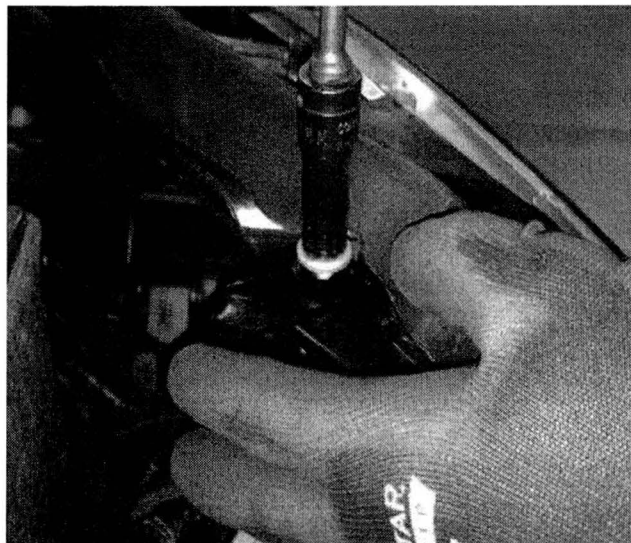
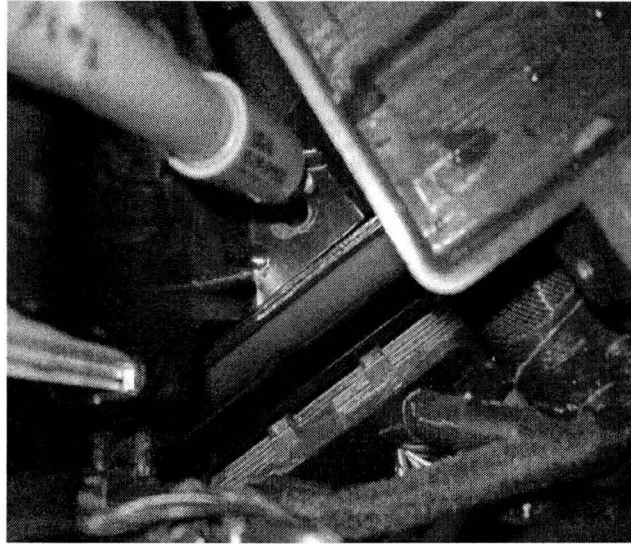

Fig. 8 PCM Bracket
Fig. 9 PCM Bracket
7. Remove the PCM bracket fastening screws using the 10 and 13 mm socket wrench (Fig. 8) and (Fig. 9).